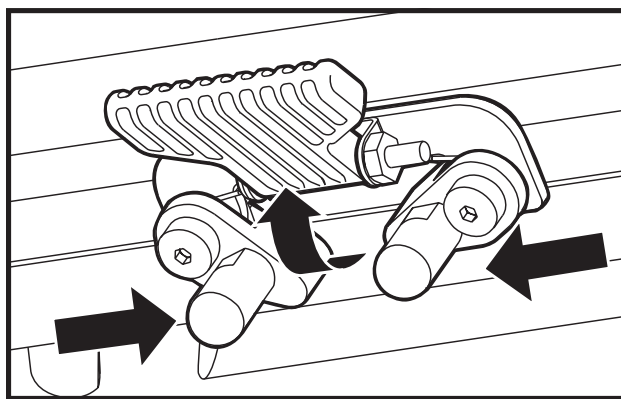

Figure 18. Seat Latch Safety (Disengaged)
3. Flip up the seat latch safety. See figure 18.